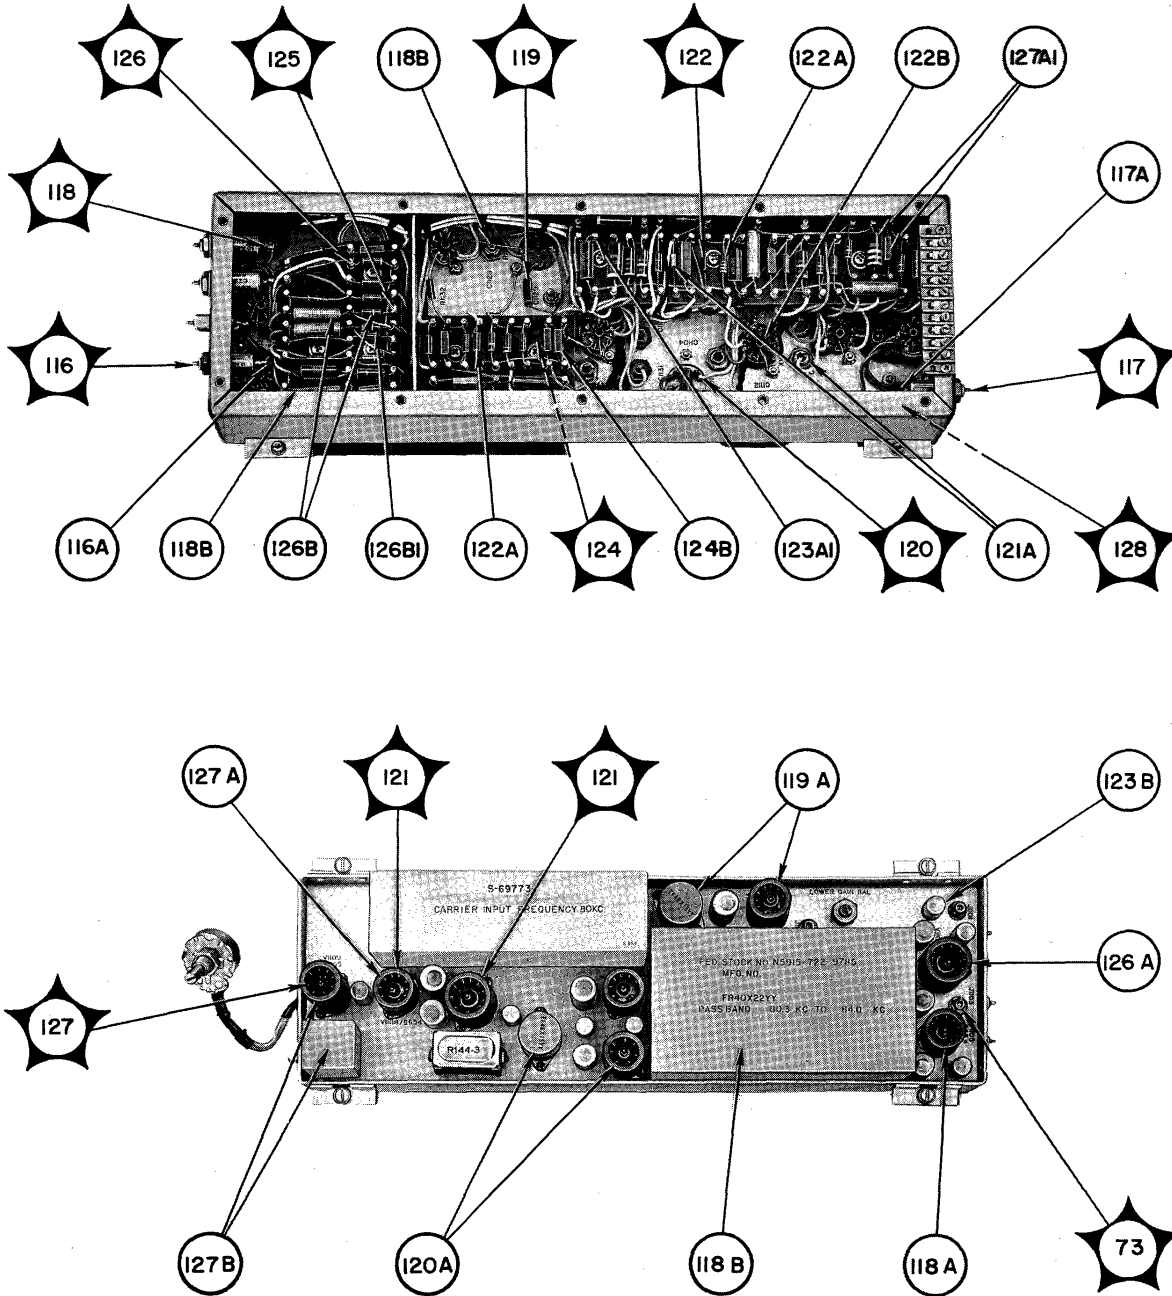

Figure 5-73. LSB Detector-Amplifier, Location of Test Points
*b. ACCESS.*—The LSB detector-amplifier is located in the lower demodulator deck. Raise the upper deck for access to the top; tilt the whole drawer for access to the bottom. Figure 5-72 shows the location of parts and figure 5-73 the location of test points.
- (1) Seating of tubes V1101 through V1109 in their sockets
- (2) Cable connections at J1101, J1102, J1103, and TB1101
- (3) Soldered connections at chassis feed-through terminals
- (4) Mechanical operation of panel controls A.F. LEVEL LINE A, A.G.C. LOWER ON/S.S.B./OFF, A.G.C. LOWER SLOW/FAST, and RECEPTION A.M./S.S.B.